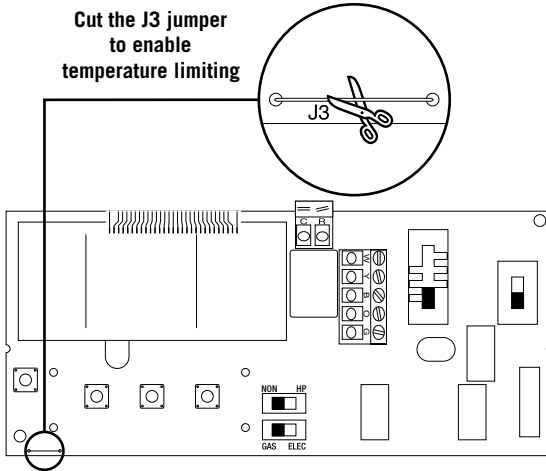

Figure 7
17. A temperature limiting jumper has been included in this thermostat. Cutting this jumper (J3) limits the heating setpoint to no greater than 72°F and the cooling setpoint to no lower than 78°F (Figure 7).
**NOTE: IF THE TEMPERATURE LIMITING JUMPER J3 IS CUT (FIGURE 7), THE DEADBAND IS NOT ADJUSTABLE AND IS AUTOMATICALLY SET TO 6°F (3°C).**